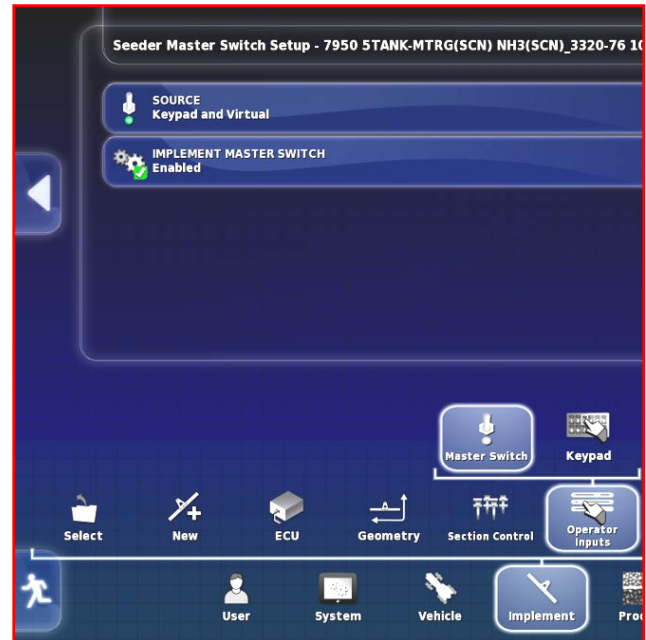

Figure 13.2 - SwitchBox Setup
1. If the cabin keypad/virtual switches are enabled and the Auto clutch switch is enabled (refer to Section 6.6 - Operator Input and Figure 13.2), the cabin master has **priority** over the auto clutch switch. In that case the in-cab/virtual master would have to be turned on for the auto clutch switch to control the Air Seeder.